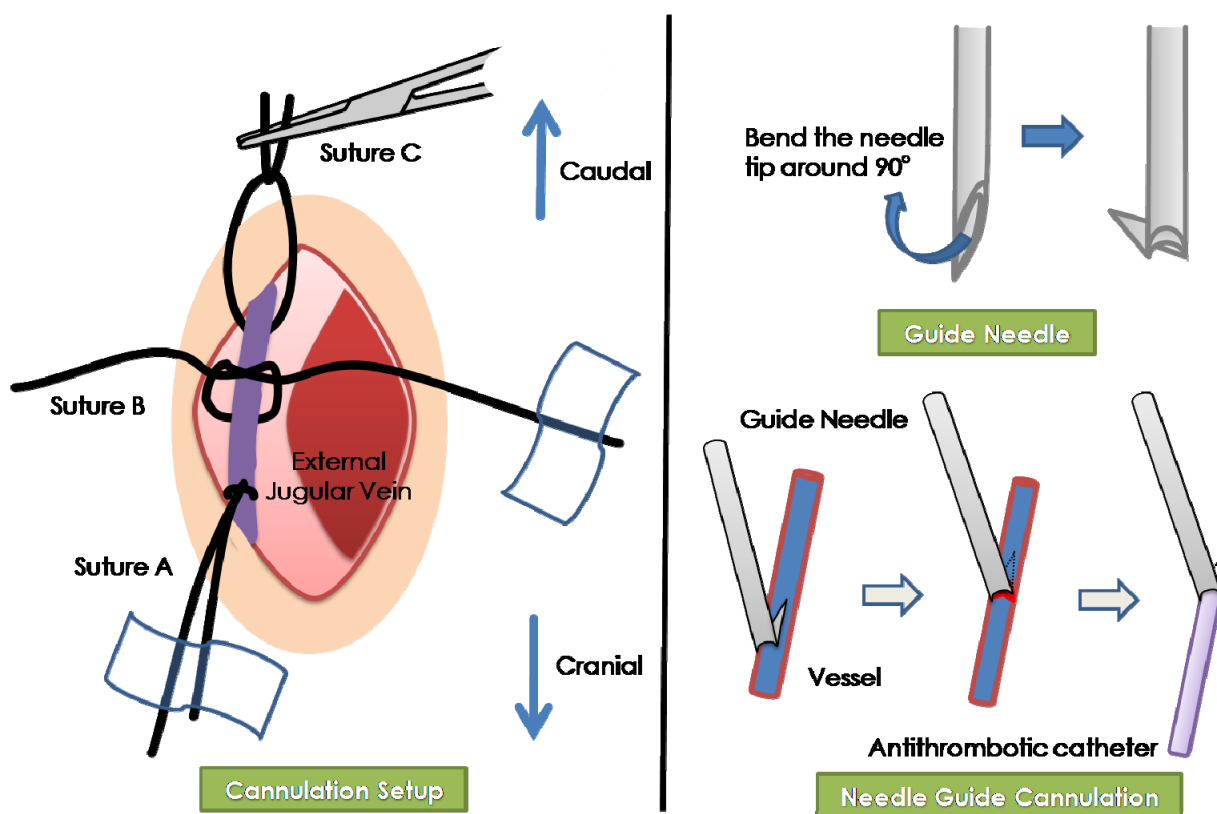

Fig. 3 Cannulation setup and needle introducer
5. Tie a secure knot around the vein using suture (A) to ligate the vessel.
6. Apply tension to suture (A) and tape the suture tails to the surgery table.
7. Make a loose knot on suture (B), and tape the suture on one of the tails.
8. Make a loose knot on suture (C), and clamp the suture tails with hemostat.
9. Gently apply tension to suture (C) using a hemostat to occlude blood flow.
- i. Prepare a catheter introducer by bending the beveled tip of a 23-gauge syringe needle. Hold the syringe needle with the beveled side facing up. Grasp just the beveled area of the needle with a needle holder and bend the tip downward to an angle of approximately 90°. (See Figure 3) The syringe needle may be placed onto a 1 cc syringe to be used as a handle to hold onto the needle and allow for a clear view of the surgical area.
- ii. Using the 23-gauge needle as an introducer, pierce the vessel just proximal to the ligation suture (A) and insert the catheter caudally. Once the catheter is inserted into the vessel, withdraw the catheter introducer.
11. Secure the catheter to the jugular vein with suture (B) by gently pulling the loose suture tail.
12. Once the catheter is secured, release the tension on suture (C) and advance the catheter around 12mm beyond suture (C).
13. Tighten suture (B) and (C) around the catheter.
14. Release the tension on the ligation suture (A) and tie the loose ends around the catheter to help anchor it in place.